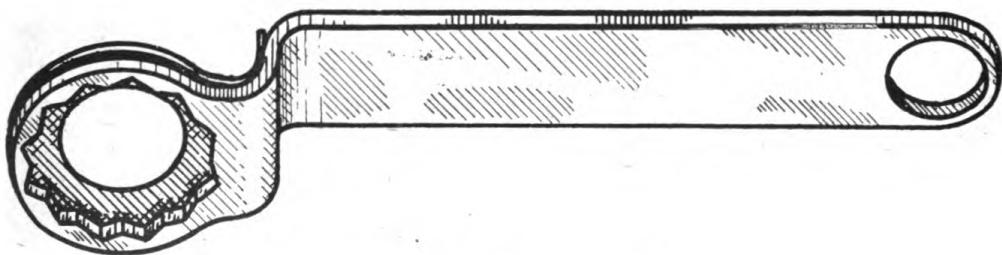

*Figure 19. Torque wrenches.*
*b. TORQUE WRENCH.* (1) A torque wrench is similar in operation to the ratchet handle of a socket wrench. It is made with a strong spring connection between the handle and the socket attachment. As the handle is pulled, the spring bends. The amount of bend is proportional to the torque applied. A gauge, located on the wrench handle, registers the amount of torque. The gauge is calibrated in inch-pounds. Some of the gauges have a floating pointer which is moved by the gauge pointer but the floating pointer remains at the point of maximum torque until set back to zero by the mechanic. Torque wrenches are usually manufactured to register a maximum of 250 or 3,500 inch-pounds. (See fig. 19.)
(2) A torque wrench enables a mechanic to tighten a nut with exactly the proper amount of torque. If a nut is left too loose, it does not hold securely. If it is tightened too tight, it may pull the bolt in two, strip the threads, or put an unnecessary and possibly dangerous strain on the members being held together. If a set of nuts (such as those which hold on a cylinder head) are not all tightened with the same torque, internal stresses will be set up in the cylinder head. These stresses may cause eventual failure of the cylinder head. Check after check has shown that structural failure and rapid wear have been caused by improper tightening of nuts and bolts.